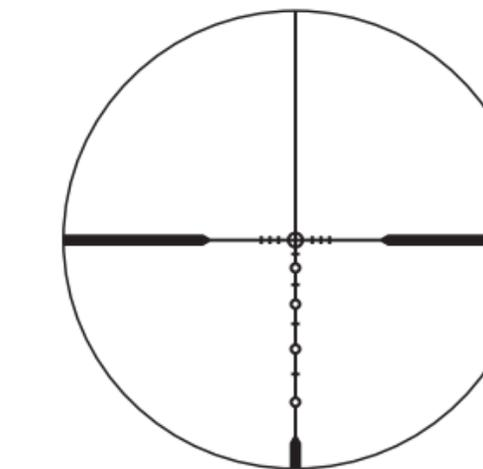

Fig. 3
(1) Focusing
- ① Look through the eyepiece with your eye positioned about 4 in (10 cm) away from the eyepiece to see the BDC SuperSub reticle (Fig. 3).